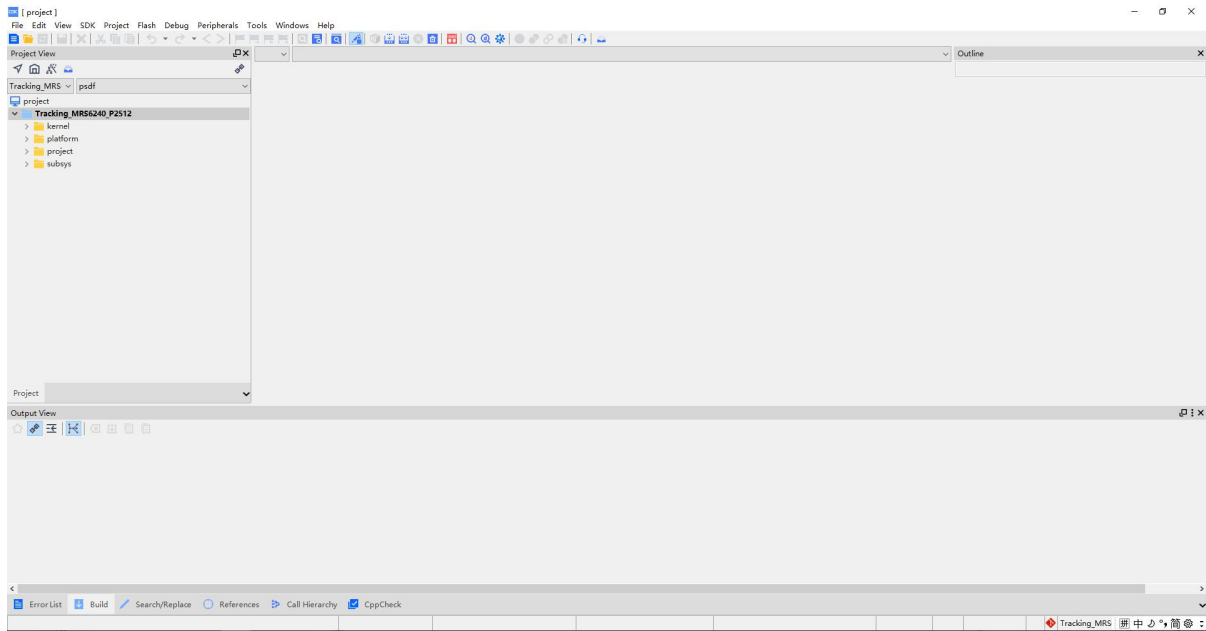

Figure 4-3 IDE Interface
2. Double-click project.cdkproj to open the project, as shown in Figure 4-3.